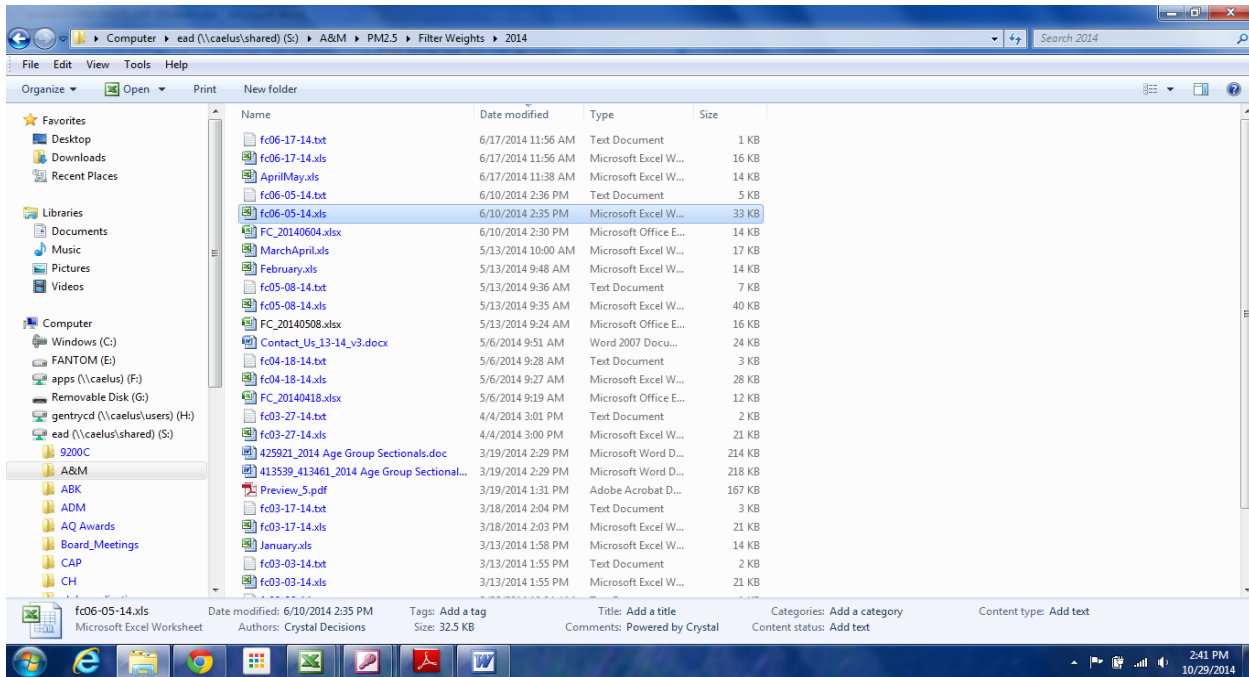

Figure 31: Filter Weights Directory
6.5.1.2 Once the weights arrive, save to S:\PM_{2.5}\Filter Weights\(\YYYY) directory (see Figure 31).